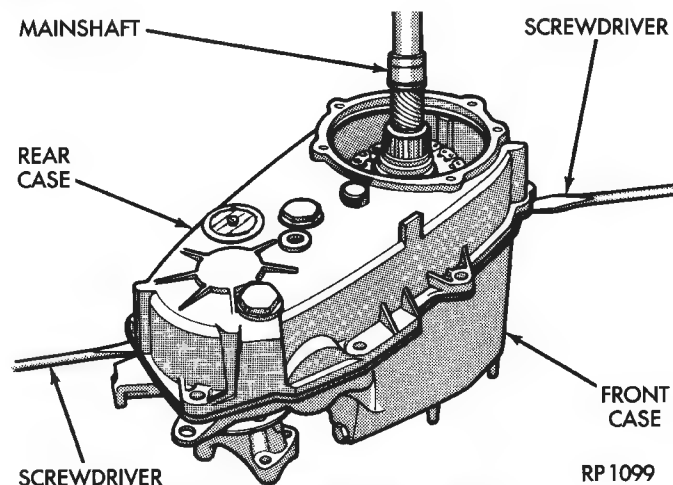

Fig. 4 Loosening Rear Case
- (10) Separate rear case from front case (Fig. 4). Insert screwdrivers into slots cast in case ends. Then gently pry upward to break sealer bead and loosen rear case.